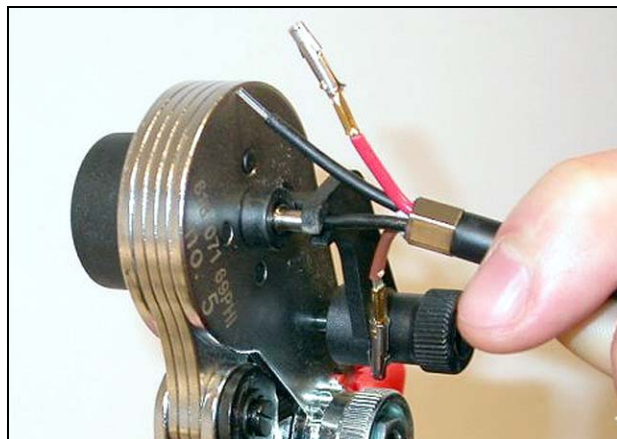

figure 29.23: Crimping ferrules (1)
- 21 Insert a plastic optical fiber into the ferrule in the spring-loaded stop of the POF positioning tool (see figure 29.23).